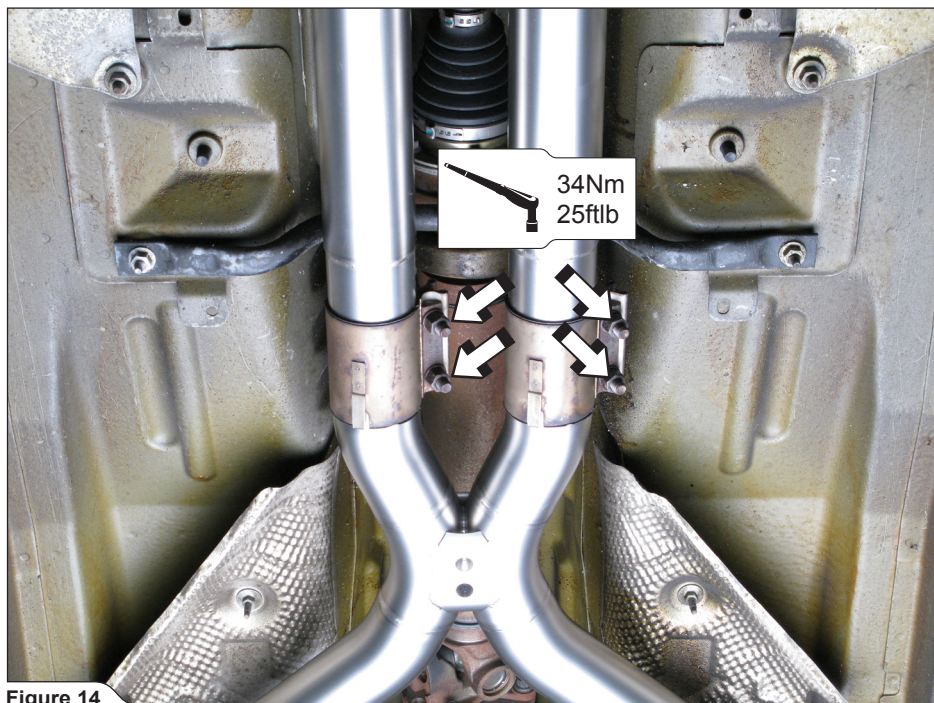

Figure 14
8. **For Slip-On and Evolution:** align the stock (**Slip-On**) or Akrapovič (**Evolution**) middle pipes in respect to the vehicle and tighten the clamps to a specified torque (**Figure 14**).